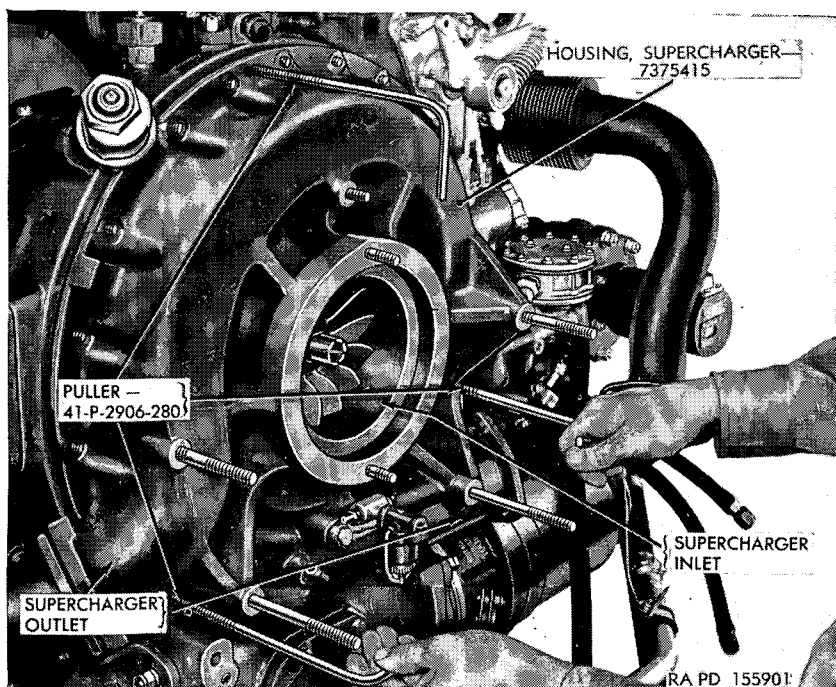

Figure 31. Removing supercharger housing.
- (1) Remove the 19 jam nuts, plain nuts, and plain washers holding the supercharger housing to the accessory case. Using puller 41-P-2906-280 (fig. 31), remove the housing from the studs and discard the "O" ring gasket (G, fig. 49).